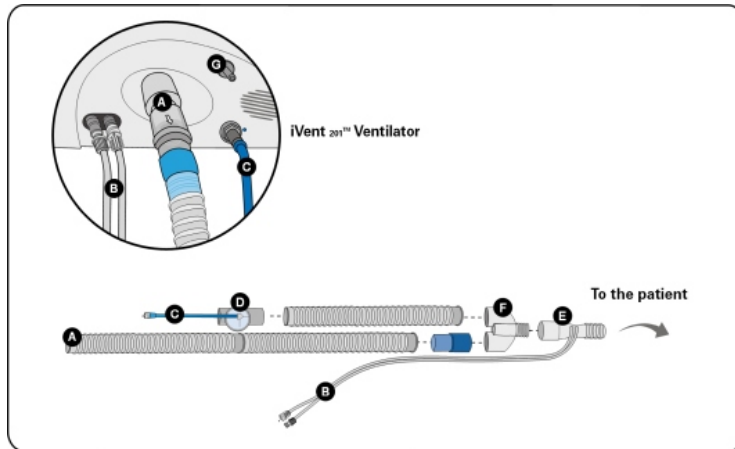

Figure 178: iVent™201 Reusable Patient Breathing Circuit
1. Connect the one-way valve to the ventilator outlet (Figure 178 (A))
3. Connect opposite end of tubing to humidifier inlet, and connect 22-mm tubing (with the installed watertrap) between humidifier outlet and Y-connector (Figure 178 (F)).
4. If using Patient circuit with heated wire: Connect full-length tubing with heated wire to Y-connector (Figure 178 (F)). Note: The P/N of the circuit with the heated wire configuration is M1161732
5. Connect the Exhalation valve (Figure 178 (D)) to the Y-connector (F) with 22-mm tubing (with the installed watertrap). Verify that the arrow on the exhalation valve cup is directed to opposite from the patient.
6. Connect the two channel flow sensor tubing (Figure 178 (B)) to their respective connectors next to the Breathing Outlet. Flow Sensor tubing are equipped with luer connectors - left female and right male for differentiation.
7. Connect the Exhalation Control Tube (Figure 178 (C)) with luer connector to its respective connector on the right side of the front panel, marked with blue dot.